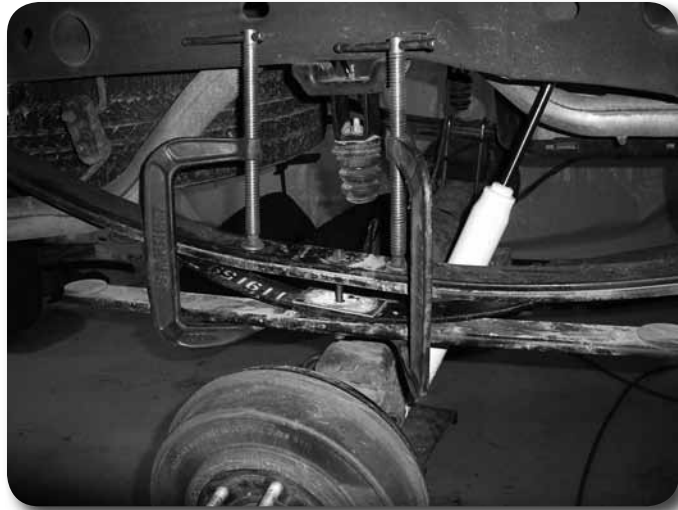

Figure 3
12. Place the C-clamps back on the leaf pack on each side of the center pin **Figure 3**. Slowly pull the leaf pack together with C-clamps, make sure the leafs stay in line and the center pin is square. When the pack is completely together, torque the center pin to 30 ft-lbs. Remove the C-clamps.